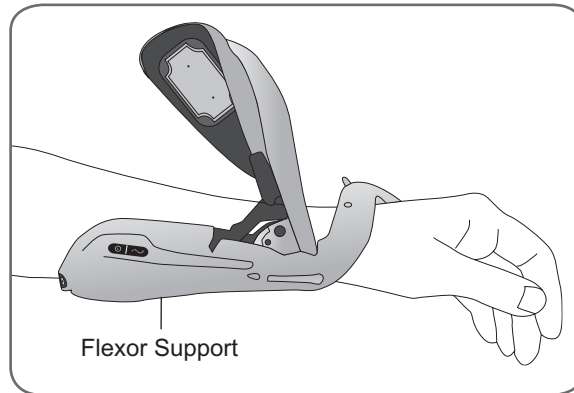

Figure 8-9: Positioning the Flexor Support
3. Place your forearm in the Orthosis Flexor Support. See Figure 8-9.